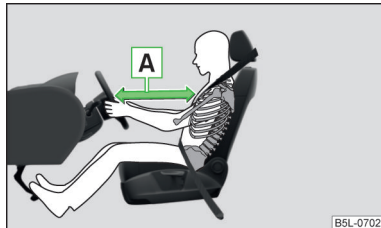

Fig. 10
- It is important for the driver and front passenger to maintain a minimum distance of 25 cm from the steering wheel or the control panel » Fig. 10 - **A**. If you do not observe this distance, the airbag cannot protect you - risk to life! The front seats must always be set correctly according to the body size.